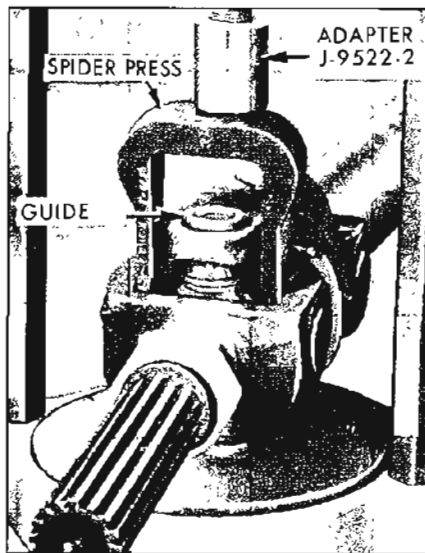

Figure 6-57—Removing Bearing with Guide and Spacer in Place
6. Install Spacer J-9522-5 adjacent to the bearing as in Step 4 and remove the bearing. See Figure 6-57.